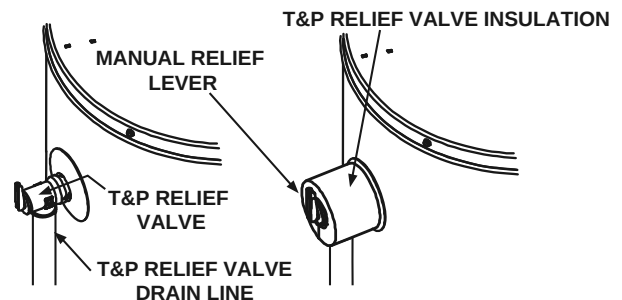

FIGURE 16.
1. Locate the temperature and pressure relief valve on the water heater (also known as a T&P relief valve). See Figure 16.
3. Spread the slit open and fit the insulation over the T&P relief valve. See Figure 16. Apply gentle pressure to the insulation to ensure that it is fully seated on the T&P Relief Valve. Once seated, secure the insulation with duct tape, electrical tape, or equivalent.
IMPORTANT: The insulation or tape should not block or cover the T&P relief valve drain opening. Also, the insulation or tape should not block or hinder access to the manual relief lever (Figure 16). Ensure that a discharge pipe is installed into the T&P valve discharge opening per the instructions in this manual.